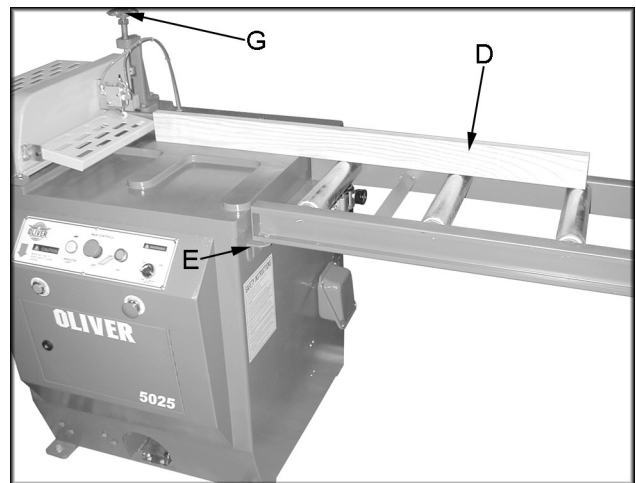
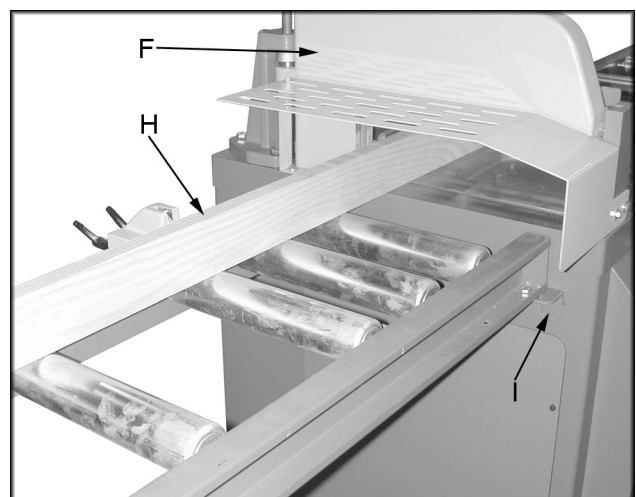

Figure 12
Figure 13
3. Place the board (D, Figure 12) on the saw table surface and allow it to extend to the second or third roller of the roller table.
4. Level the roller table by raising/lowering the mounting bracket (E, Figure 12), or by raising/lowering adjustable foot pad.
5. Figure 12 shows the straight edge on the back side of the roller table. Move the straight edge to the front side of the rollers and repeat the leveling process. When roller table and main table are level, securely tighten the nuts on the foot pads and the bolts in the bracket.
6. Now attach the cutoff saw to air and raise the blade guard (F, Figure 13) completely by turning the knob (G, Figure 12).
7. Place the board (H, Figure 13) on the saw table surface and allow it to extend to the third or fourth roller of the roller table.
8. Level the roller table by raising/lowering the mounting bracket (I, Figure 13), or by raising/lowering adjustable foot pad.
9. Figure 13 shows the straight edge on the back side of the roller table. Move the straight edge to the front side of the rollers and repeat the leveling process. When roller table and main table are level, securely tighten the nuts on the foot pads and the bolts in the bracket.